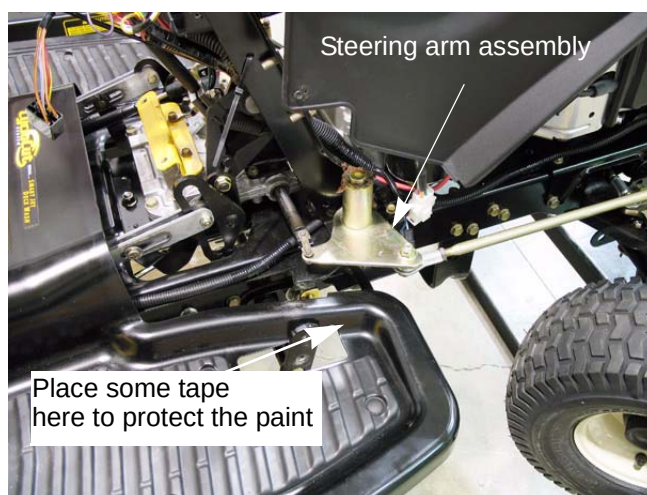

Figure 4.14
10. Place the steering wheel on the steering shaft. Turn the wheels to the left and right to allow the fenders to clear the steering arm assembly. See Figure 4.14.